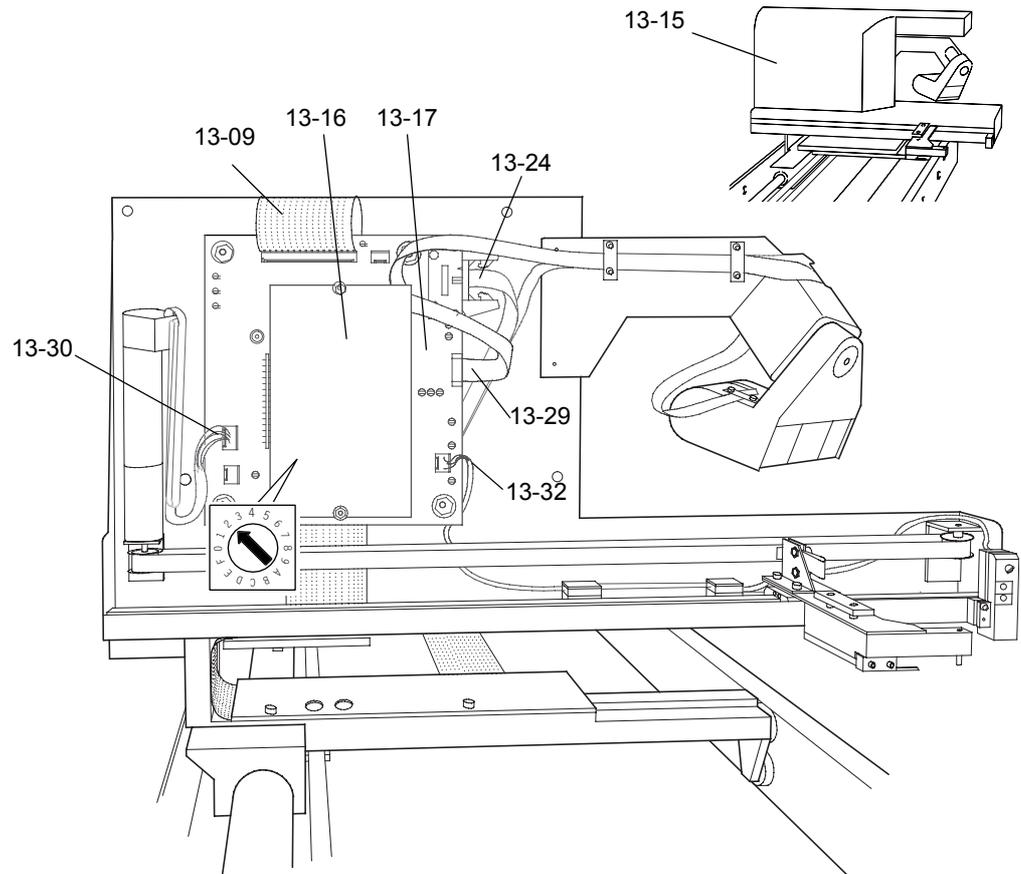

Figure 6-140 Y/B board
- 6 Disconnect the X-flex cable (13-09) from Y/B board (see Figure 6-140).
The item numbers mentioned refer to Figure 6-140, ‘Y/B board’.
- Refer to Figure 6-140 for correct cable connection.
- 3 Connect the scanner flex cable to the Y/B board (see Figure 6-140, 'Y/B board') and install the cable fixtures.
- 2 Disconnect B-motor cable from Y/B board (see Section Figure 6-140, 'Y/B board')
- 7 Remove casing and connect B-motor cable to the Y/B board (see Figure 6-140, 'Y/B board').